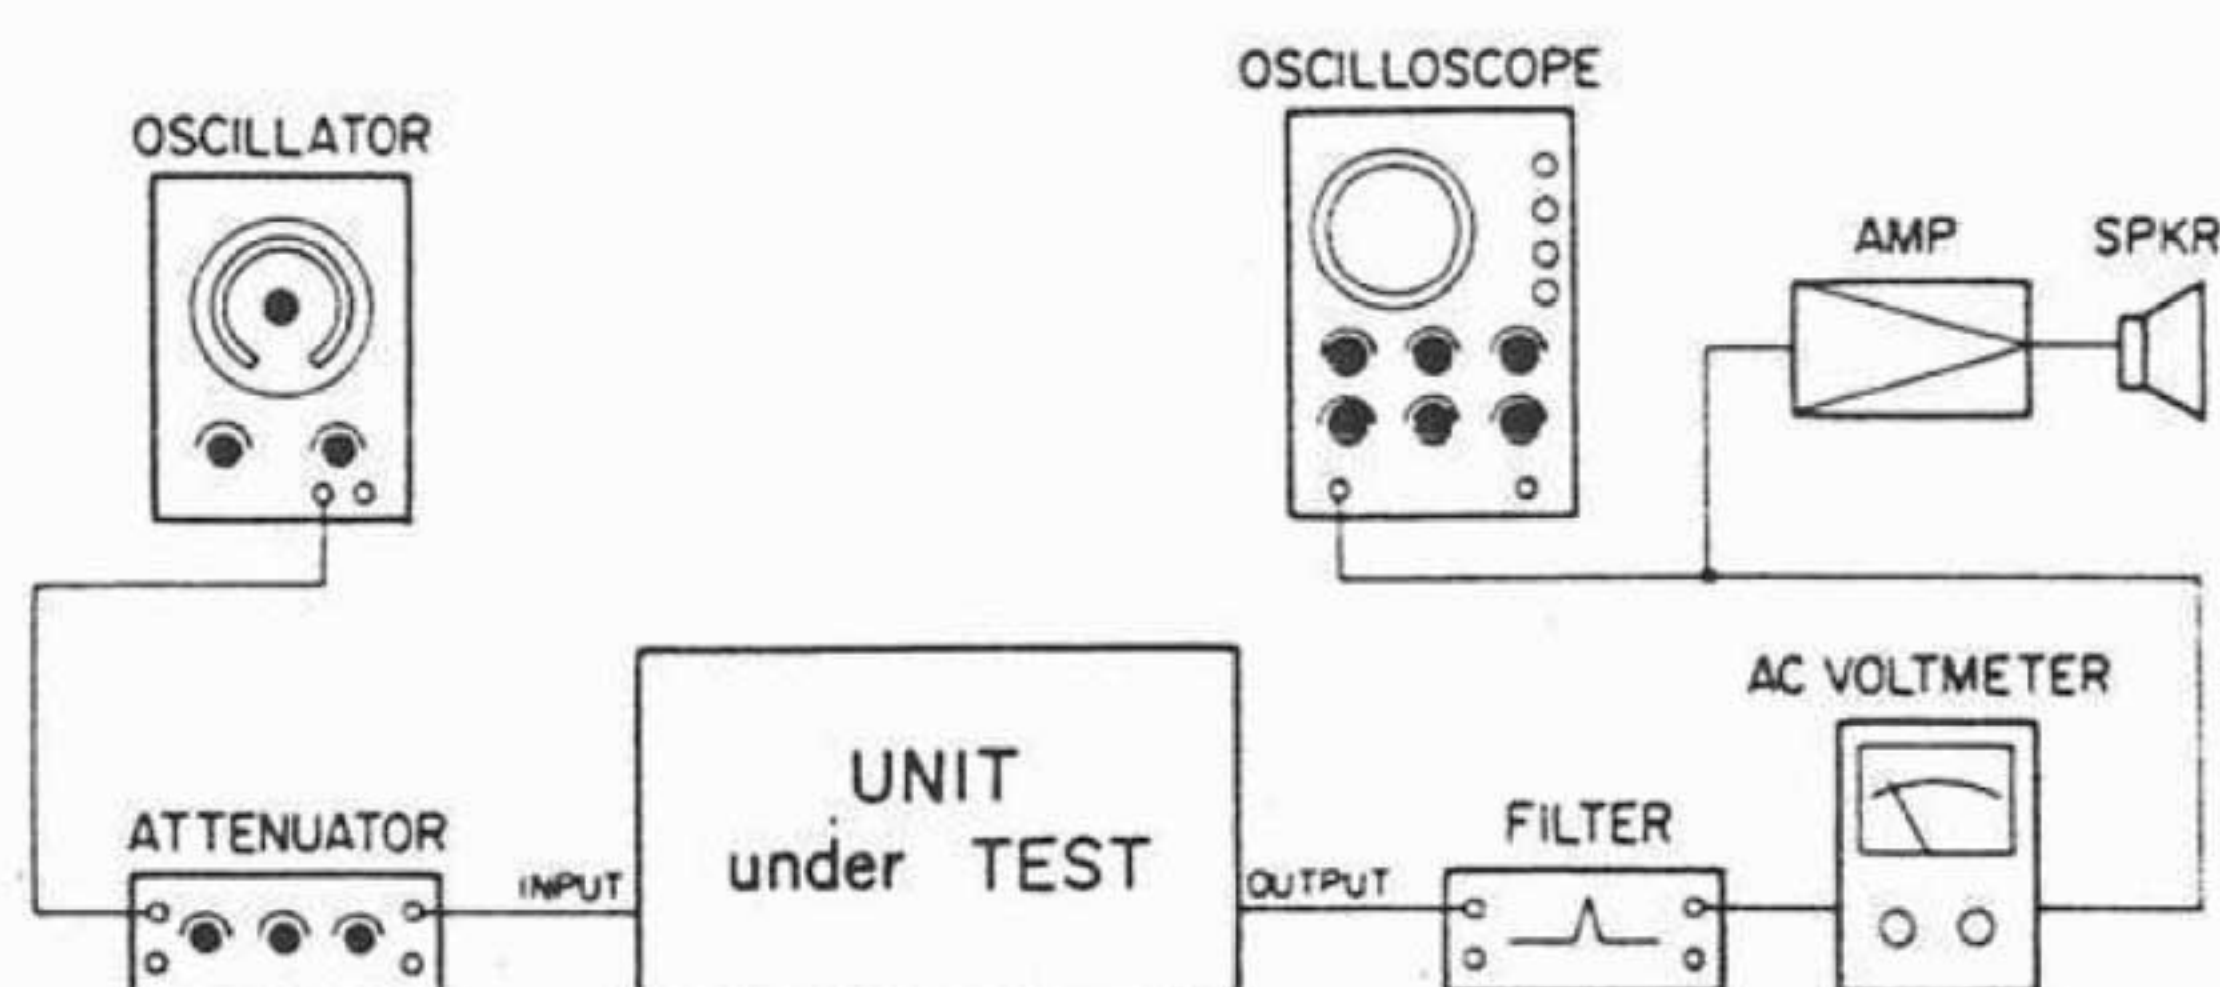

FIG. 38. ERASURE TEST SET-UP
1. Connect test equipment as shown in Fig. 38.